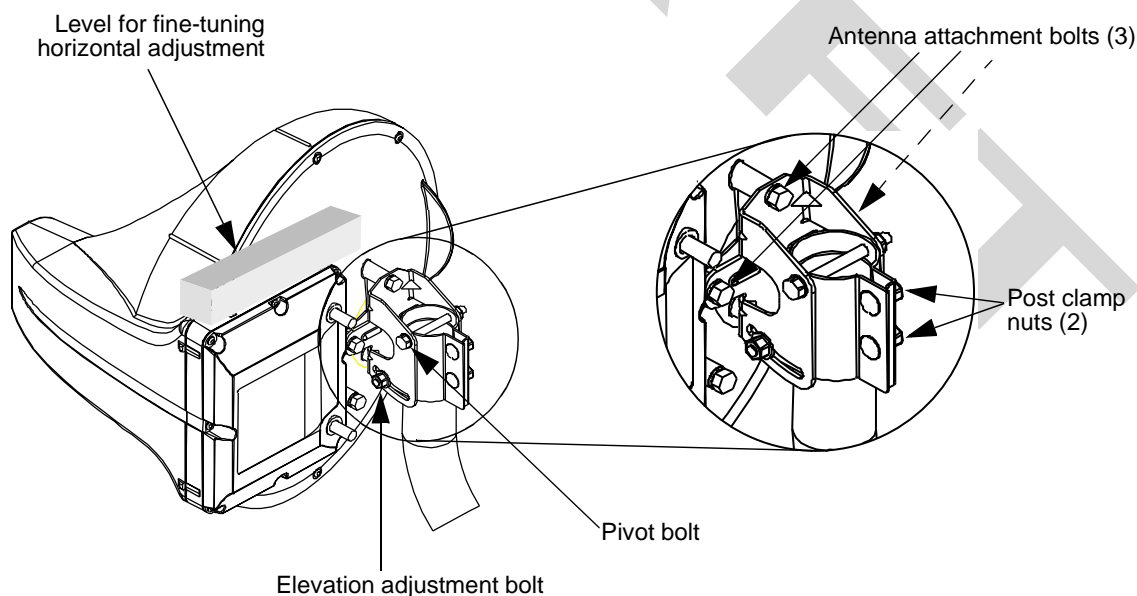

Figure 4. Fine-Tuning Antenna Physical Adjustment
2. Hold the antenna assembly in place and fasten the post clamp nuts (see Figure 4).
5. Holding the antenna assembly from the rear, loosen the elevation adjustment bolt (see Figure 4).
8. To adjust the azimuth, loosen the post clamp nuts (see Figure 4).